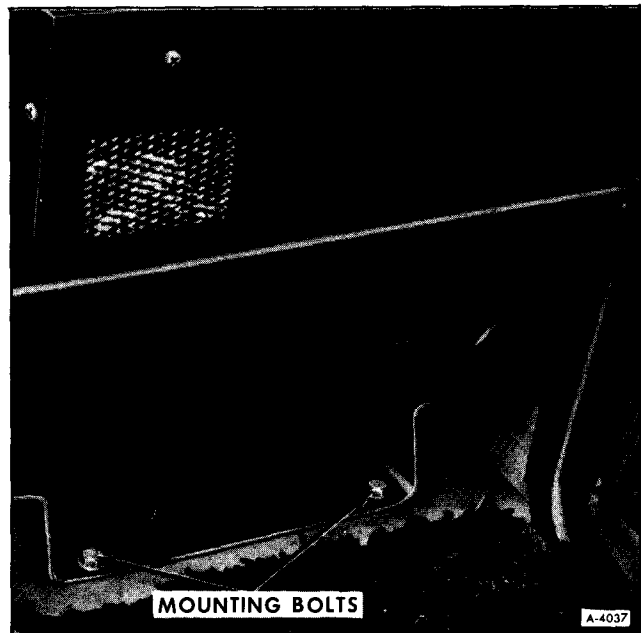

Figure 8—Location Furnace Mounting Bolts (Right-Side)
a. If vehicle is equipped with davo, raise seat and then disconnect ducts from right side of furnace. Then remove two mounting bolts (See figure 8).
b. If vehicle is equipped with swivel chairs, remove screws retaining duct panel assembly to floor and sink module. Carefully raise panels and disconnect ducts from right-side of furnace. Remove panel assembly and also two mounting bolts (See figure 8). Remove swivel chair.
2. Install two mounting bolts at right-side of furnace (See figure 8).